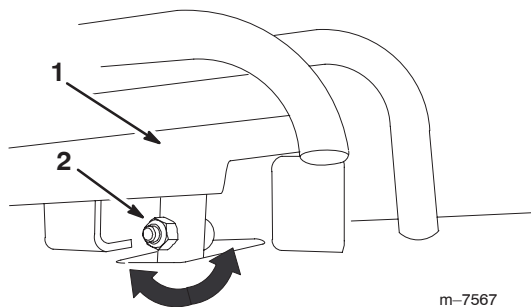

Figure 37
4. If the front of the traction control does not rest square and flush with the reference bar, loosen the flange nut and bolt in the stem of the traction control (Fig. 37).
5. Adjust the traction control so that it rest flush against the reference bar when it is pulled straight back (Fig. 37 and 38).